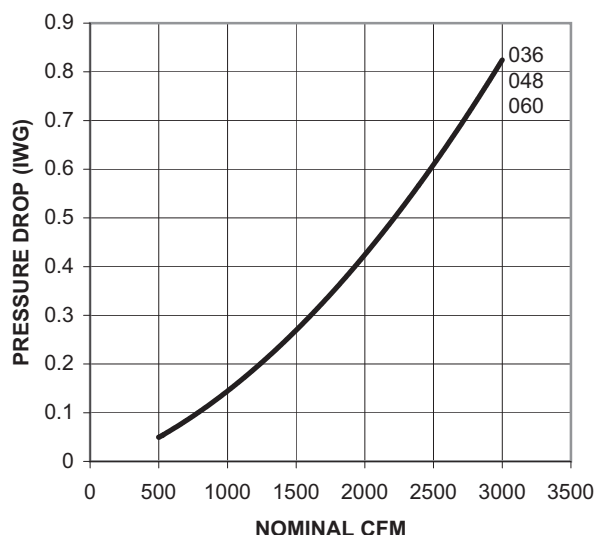

Figure 16: Pressure Drop Across Coil
4. Knowing the pressure drop across a dry coil, the actual CFM through the unit can be determined from the curve in Pressure Drop vs. Supply Air CFM (Figure 16).